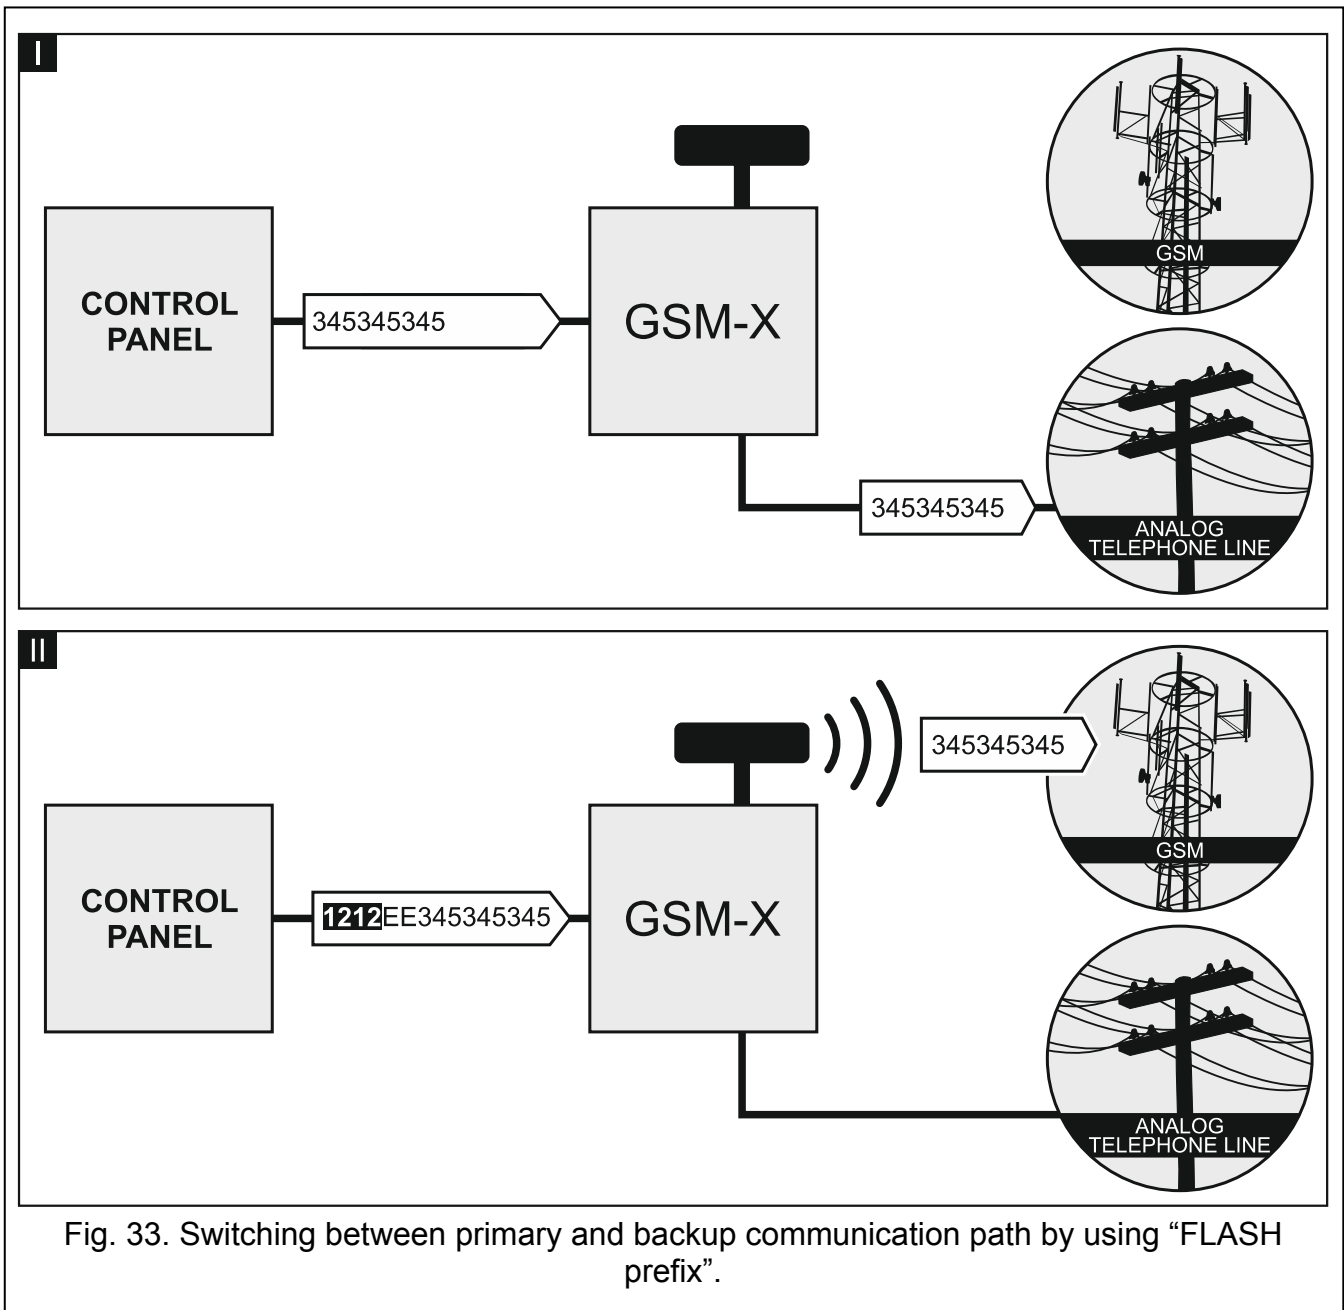

Fig. 33. Switching between primary and backup communication path by using “FLASH prefix”.
**FLASH prefix** – a string of up to 16 digits for switching between the primary communication path and the backup one. To set the primary communication path, use the “GSM as a primary telephone line” option. In the example shown in Fig. 33, analog telephone line is used as the primary communication path. If the telephone number the control panel is calling is preceded by a prefix (a string of digits against black background – Fig. 33-II), the backup path will be used i.e. GSM telephone. In the control panel, you must program two pauses after the prefix, before the telephone numbers, by entering two E or F characters.